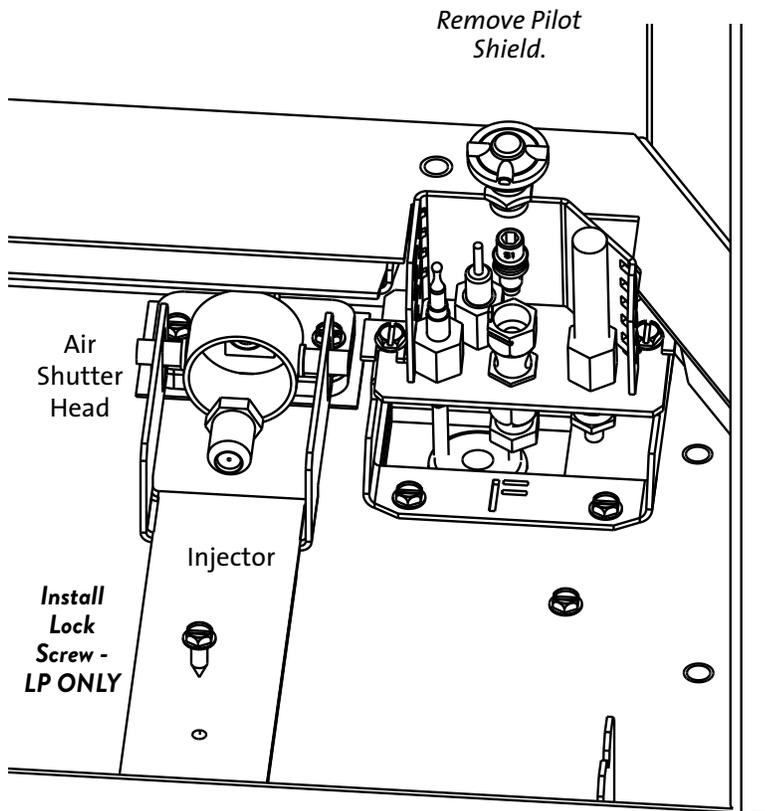

Figure 7.3.
See fig. 7.3. Using a 1/2" open end wrench or deep-well socket, remove the burner injector from the orifice holder and replace it with the injector supplied in the conversion kit.
6. **PROPANE ONLY: Install the 1/2" Air Shutter Lock Screw (Fig. 7.3)** provided in the LP Conversion Kit. The screw automatically sets the new, minimal shutter opening.
7. **Change the Pilot Injector, Fig 7.3.**
- Change the Pilot Orifice. Pull the Pilot Hood off of its base. It will snap by the retainer clip shown in Fig. 7.3.